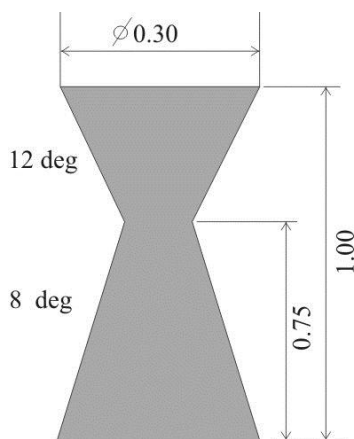

Fig. 2: Taper shape for example project.
☺ **Example project:** For machining the shape shown in the Fig. 2, proceed as follows when using Sherline's lathe and compound slide.
6) *Move cross-slide towards spindle by 0.75" using the lead screw (Fig. 3b).* (The run or length of your taper amounts to 0.75", see Fig. 2).